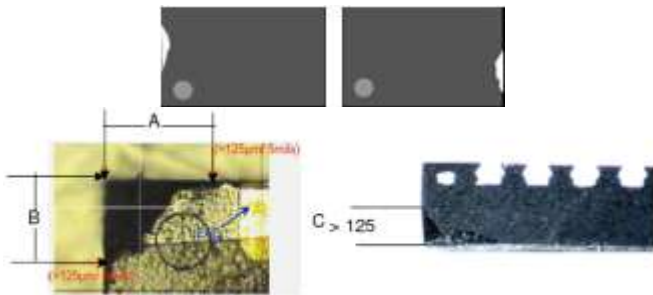

Fig. 1. Examples of package chip-out.
- Package chip-out in Fig. 1 is a common defect frequently encountered in end-of-line process at the semiconductor assembly manufacturing, and is defined as a region of material missing from a body